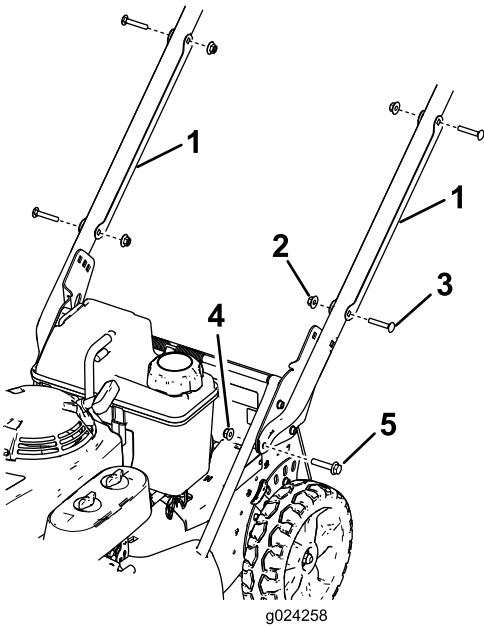

Figure 3
- Remove the cable guard from the handle (Figure 3) by removing the 2 carriage bolts and 2 locknuts that hold the cable guard to the handle.
inches) and 2 flange nuts (5/16 inch) as shown in Figure 3.
1. Carriage bolt—5/16 x 1-1/2 inches (2)
2. Handle bracket (2)
3. Flange nut—5/16 inch (2)
7. Position the cable guard onto the handle **with the cable(s) inside the guard**, and secure the guard to the handle with the 2 carriage bolts and the 2 locknuts that you previously removed (Figure 3).